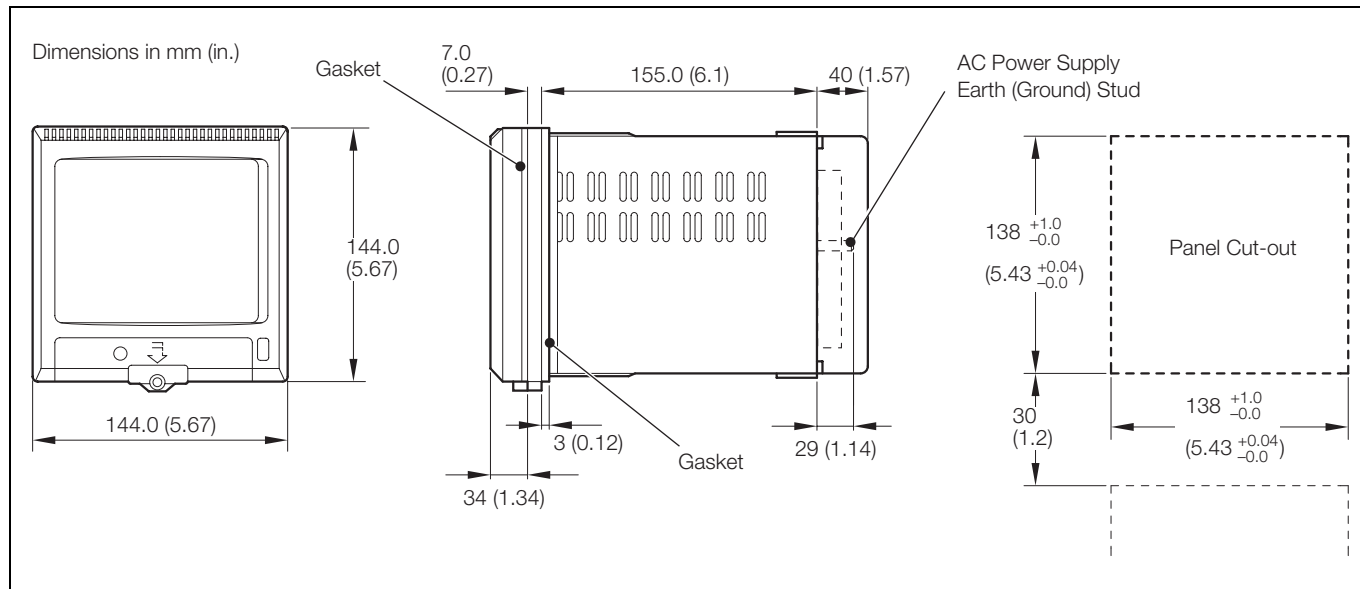

Fig. 5.3 Mounting Dimensions
5.2 Mounting – Figs. 5.3 and 5.4